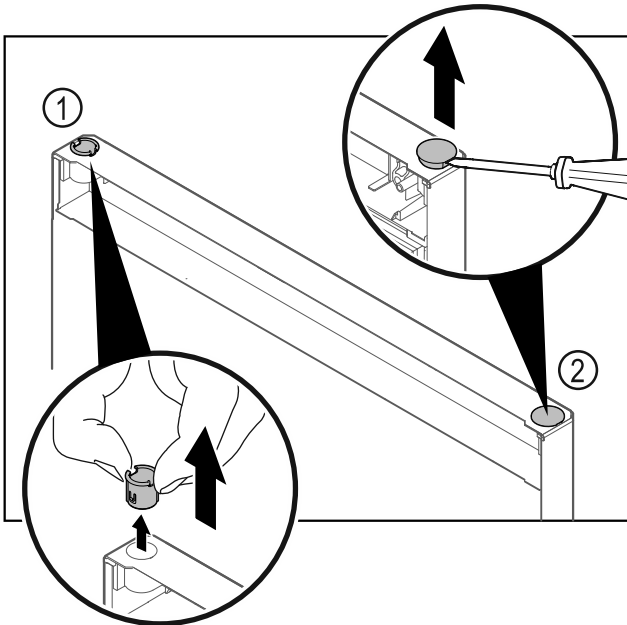

Fig. 28 Fridge compartment door
- Pull out the hinge bushing Fig. 28 (1) with your fingers.
- Carefully lift the cover plug Fig. 28 (2) with a slotted screwdriver and pull it out.